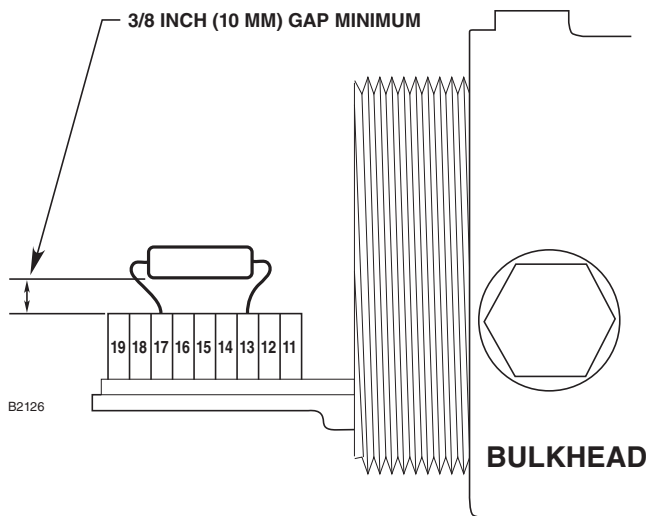

Figure 13—EOL Resistor Installation
Figure 13 shows an EOL resistor installed within the integral wiring compartment of the detector (refer to the “EOL Resistors” section for details).
3. Bend the leads and install the EOL resistor as shown in Figure 13.